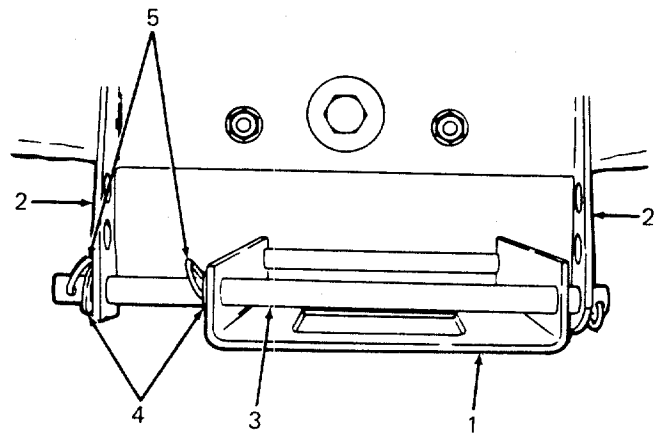

Figure 50
5. With the left front wheel turned to the left, attach the front hanger assembly to the front hanger bracket by passing the tractor hanger rod through the bottom mounting holes of the front hanger bracket. Remember to attach the center flat washer to the rod after it passes through the right side of the front hanger assembly. Refer to Figure 50. Secure the tractor hanger rod with flat washer and hairpin cotters.